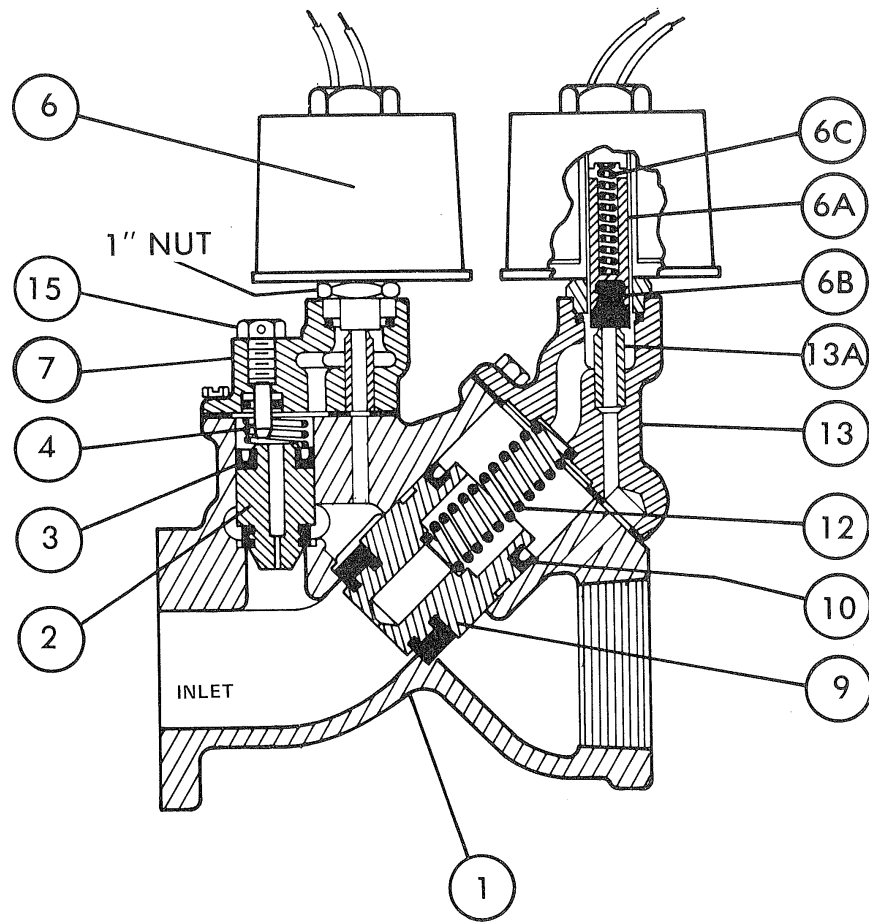

Figure 4-1. Cross Section
4.1 Opening (Reference Figure 4-1)
## 4.2 Closing (Reference Figure 4-1)
### **5.3 Materials of Construction (Refer to Figure 4-1)**
**When replacing the "U" cup seals, the seal must be installed on the piston with the open side of the seal facing upward. (Reference Figure 4-1).**
2. When replacing cylinder head assembly (Item 13) be sure spring (Item 12) is properly aligned with counterbore of cylinder head (Refer to Figure 4-1).